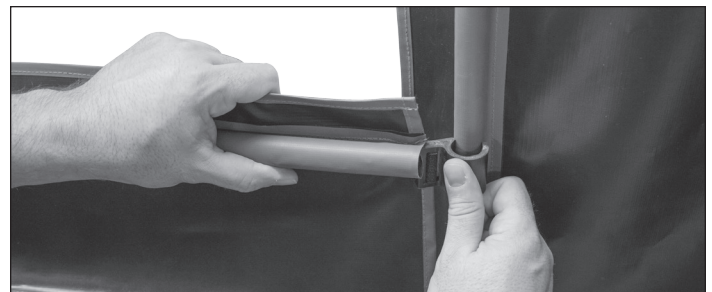

FIGURE 20
13. Attach the upper and lower window panels by pressing the sewn on C-clips to the metal window supports that were slid into the sewn on sleeves of the back and side wall panels. **SEE FIGURE 20.**
14. Attach the upper and lower door panels by pressing the sewn on C-clips to the metal window supports that were slid into the sewn on sleeves of the right and left front side wall panels. **SEE FIGURE 20.**